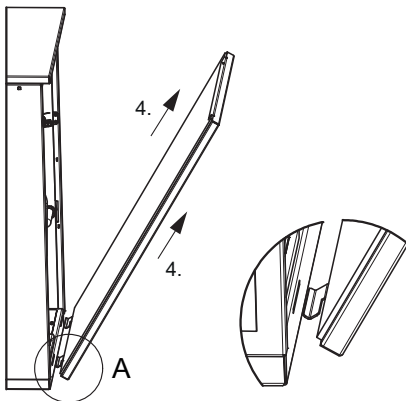

Fig. 7.4: Opening the side covering panels, work step 4
- In this position, pull the panel diagonally upwards out of the pedestal (4) (see Fig. 7.4)